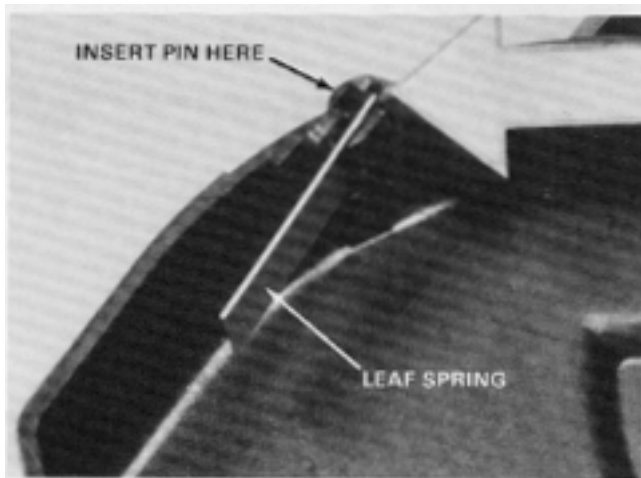

Figure 85
9. Assemble the right control housing by installing the leaf spring and pin to retain the leaf spring. See Figure 85.